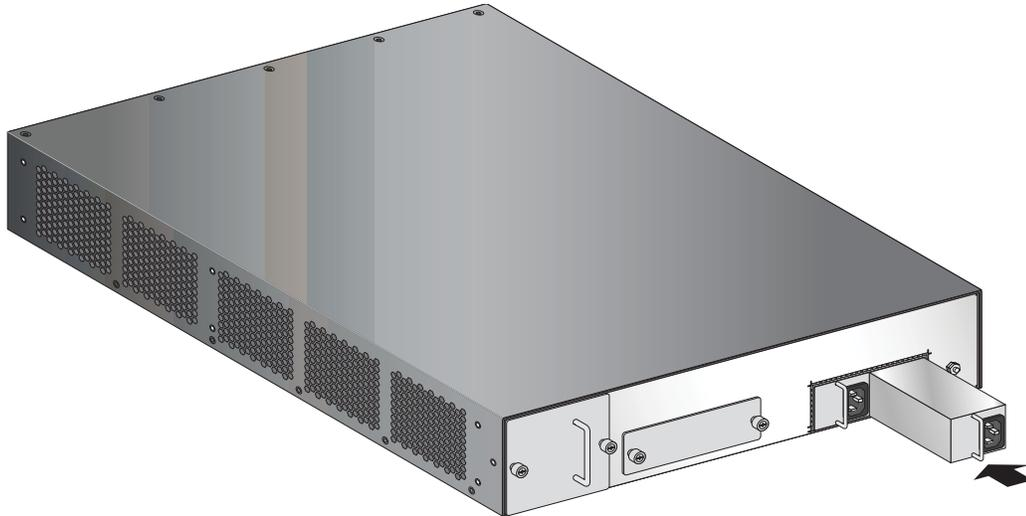

Figure 10. AC Power Supply Replacement
2. Push the lever to the right and use the handle to slide the power supply out of the device, as shown in Figure 10.